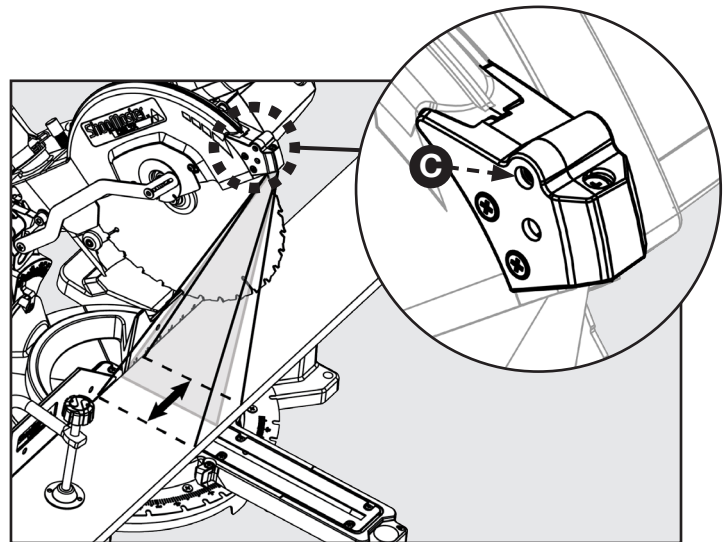

FIGURE 25
If you notice the laser line is offset from the actual cut line refer to Figure 25 and follow these instructions: using a Phillips head screwdriver turn the screw (C) to adjust the offset.